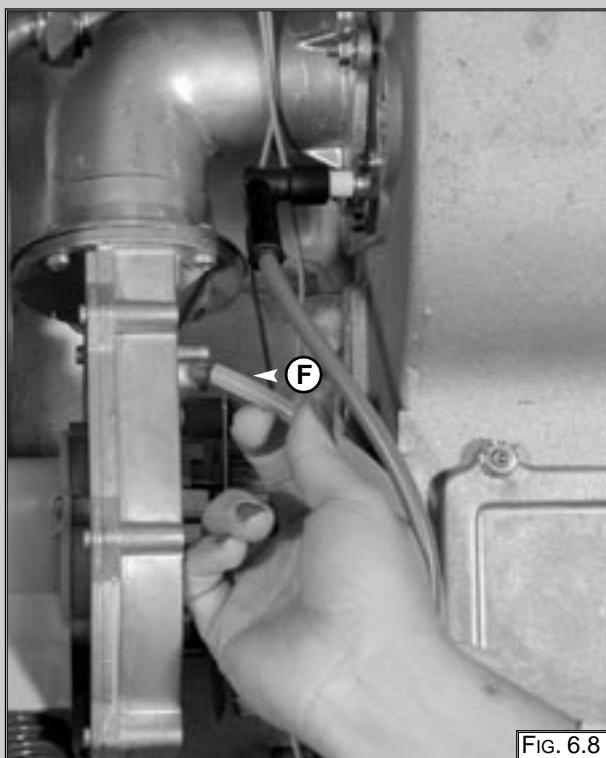

FIG. 6.8
2. Disconnect the compensation tube "F" (FIG. 6.8);